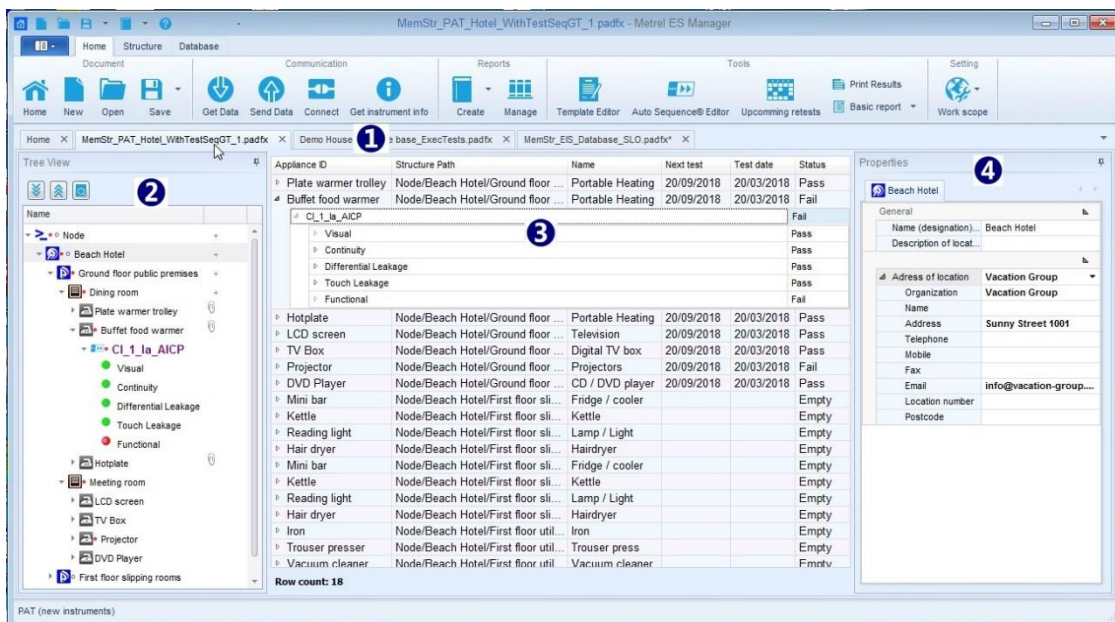

Figure 6.13: User workspace
User workspace is presented on the **Figure 6.13** below. Multiple Data structure files can be opened at the same time, independent of their Work scope setting. Their names are listed within Document tab-strip (❶), currently active Data structure file tab is highlighted.